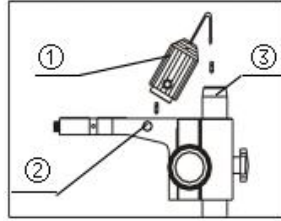

Fig. 6
- 1) Insert the illumination device ① in the bracket with the protrudent side toward the lock-screw ② and tighten the lock-screw.(Fig.6)
- 2) Put the plug into the socket of the pillar stand ③.